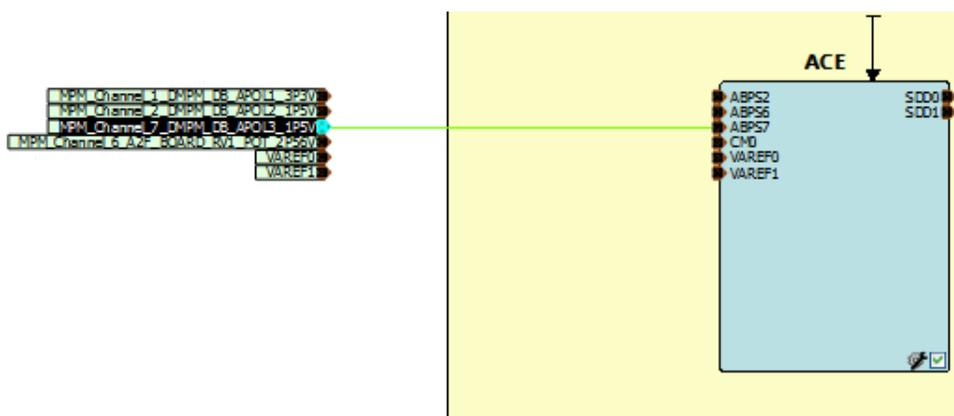

Figure 21 • MSS Configurator With Added Signal
- The MSS configurator appears as shown in Figure 21. You can observe the added signal MPM_Channel_7_DMPM_DB_APOL3_1P5V.